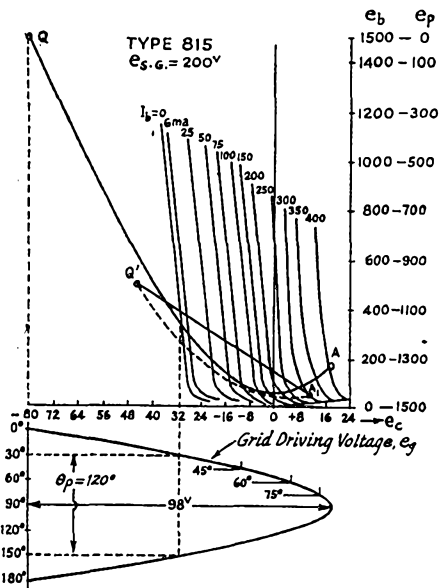

Fig. 1 — Constant-current characteristics and excitation-voltage curves for one section of a type 815.
In Fig. 1 such a chart is shown for the RCA type 815. Let us just disregard most of the lines on the chart and concentrate on the straight load line. This straight line is the conventional load line for a Class-C stage. At the Q point, E_c is -45 volts and E_b is 500 volts. This is the way we are supposed to set it up, according to the tube manuals. The grid swings up to +11 volts; the curves do not tell us what the minimum instantaneous plate voltage is, but we will assume it is 50 volts and thus fix point A₁. Under these conditions, the push-pull stage takes an input of 75 watts and puts out 56 watts.
short-lived. So we will use a power input of approximately (10) (12.5) = 125 watts. The family of curves shown in Fig. 1 is for only one of the two triode units in the tube; hence, the total power input to both units will be (2) (125) = 250 watts. Then $E_{pb} = 250/0.075 = 1667$ volts. We could use a power input of 250 watts in what follows, but 1667 volts is a peculiar value, so let us take 1500 volts and be satisfied with an input of 225 watts.